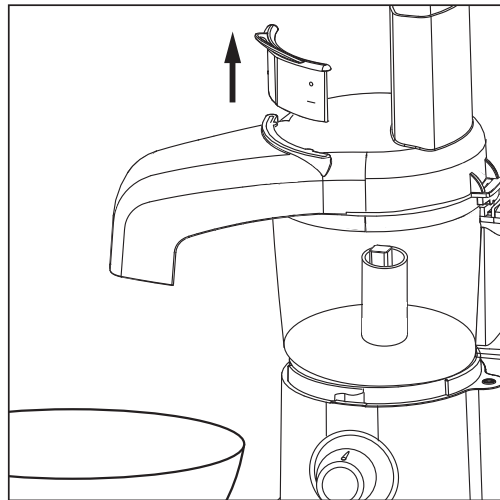

Figure 9
**NOTE:** Make sure the Flow Insert is pulled up so sliced/shredded food will process into the separate bowl (Figure 9).
- 4 Place a large, low serving/preparation bowl under the continuous flow chute to catch food and spatter (Figure 9). A rimless bowl works better than bowls with a lip.